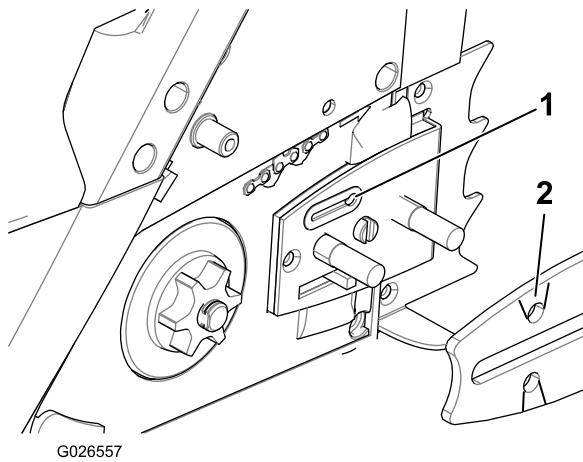

Figure 28
- 4. Check the bar grooves and the oil passage hole for debris, and clean it if necessary (Figure 28).